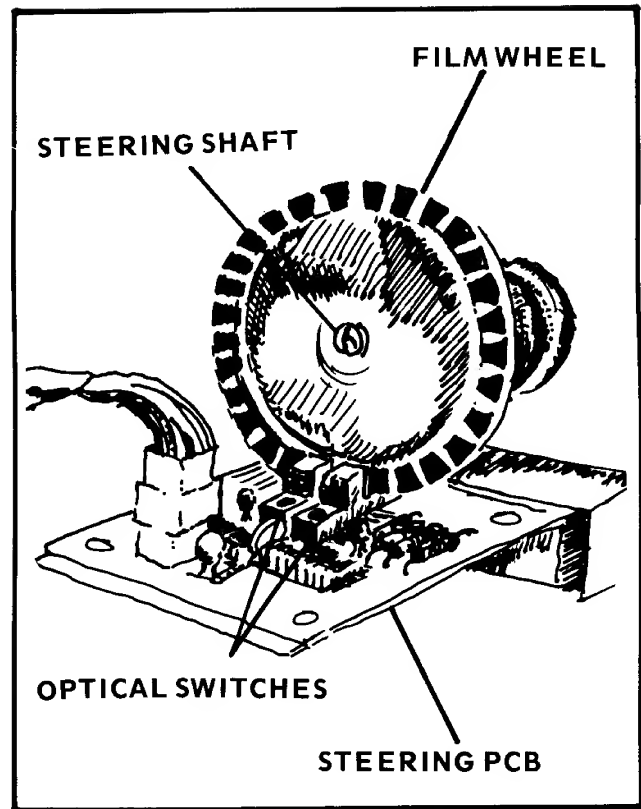

Figure 4-3 Steering Wheel Film Set-up and Adjustment
- (b) If the steering wheel film (Figure 4-3) is replaced or removed, loosen the mounting screw at the hub and adjust the position of the wheel by centering the wheel so that the black and clear slits are set.
- (e) Adjust the board so that the film wheel fits dead center between the two optical switches as illustrated in Figure 4-3.